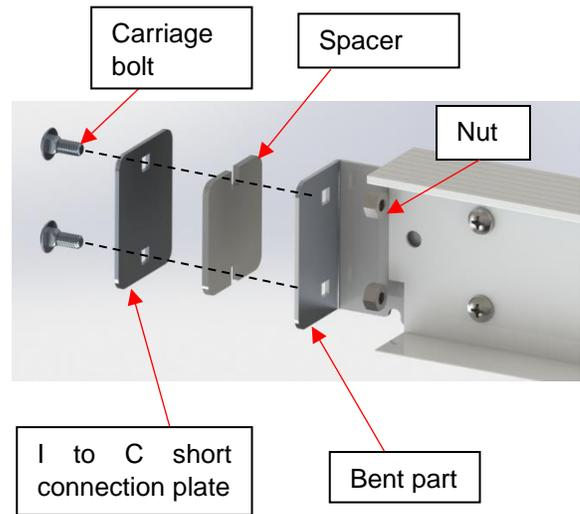

Figure 46
- 2) Assemble **two I to C short connection** plate as shown in Figure 46. Use 1/4".-20 x 5/8 in. carriage bolts, 1/4".-20 nuts and 7/16" (11 mm) socket wrench and spanner. Insert the I to C spacer between the I to C connection plate and the bent part. The carriage bolts and nuts can now be properly tightened. (Figure 46)